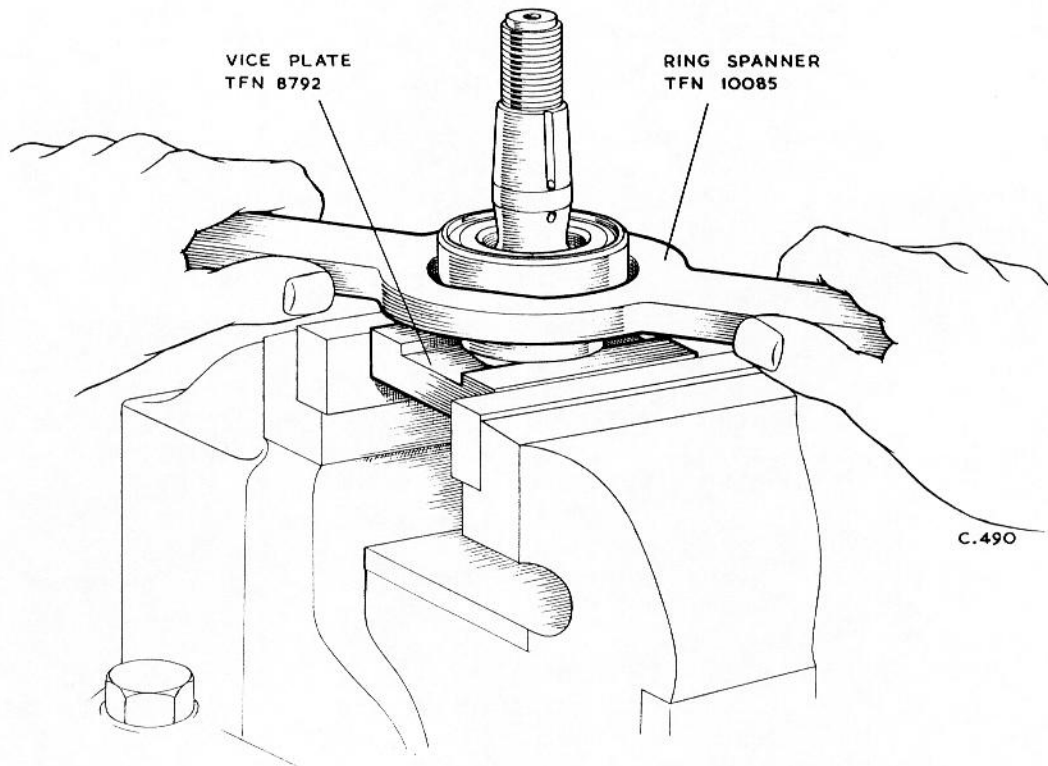

Fig.23 Unscrewing ball joint housings.
4. Unscrew and remove the housing (inside thread) from the housing (outside thread) using the vice plate TFN.8792 and the ring spanner TFN.10085, see Fig. 23. Retain the shims fitted between the housings.